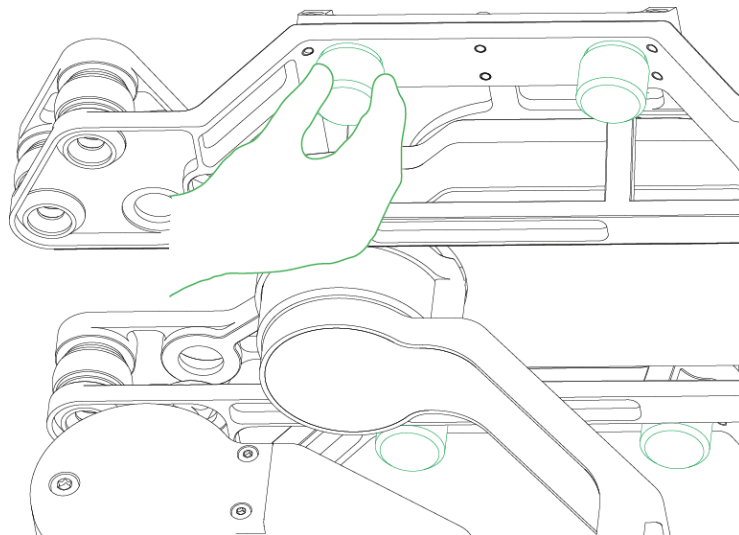

Figure 3-2
**Step 2** Align 4 installation screws with bottom holes of the aircraft, and tighten them. Fix PTZ camera onto the aircraft, as shown in Figure 3-2.